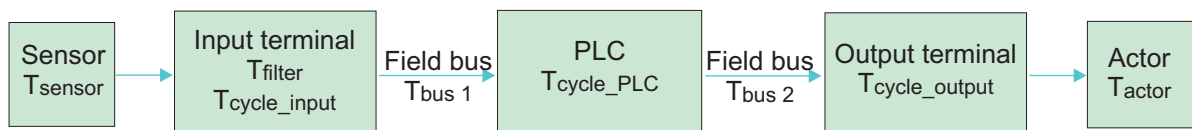

Figure 4: Chain for determining maximum system reaction time
►Figure 4◀ shows the typical arrangement of safety-oriented components within a communication network.
The system components depicted in ►Figure 4◀ each have a cycle time. The cycle time describes the internal processing time of the respective components. The communication cycle time is composed of the times $T_{Bus\ 1}$ and $T_{Bus\ 2}$.